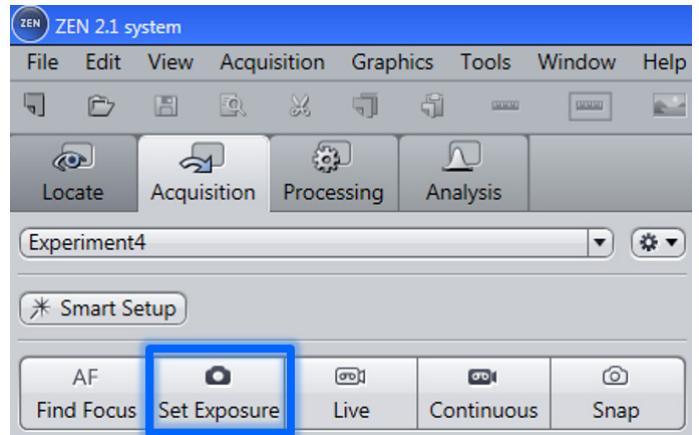

Fig. 21 Automatic detector gain adjustment
- Click the **Set Exposure** button (Fig. 21) to perform an automatic adjustment of the detector gain of the specimen brightness.